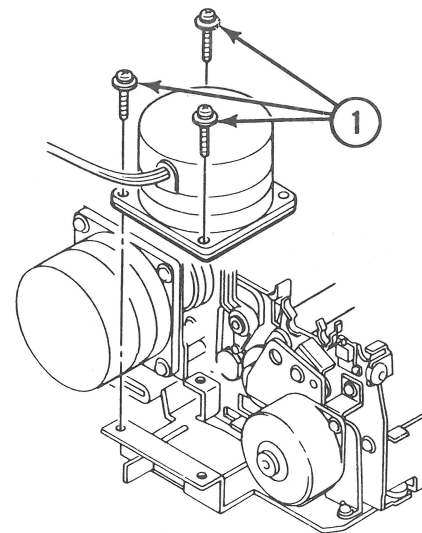

FIGURE 43
6. Remove the three Phillips screws that secure the carrier motor to the support plate assembly (Figure 43, #1).